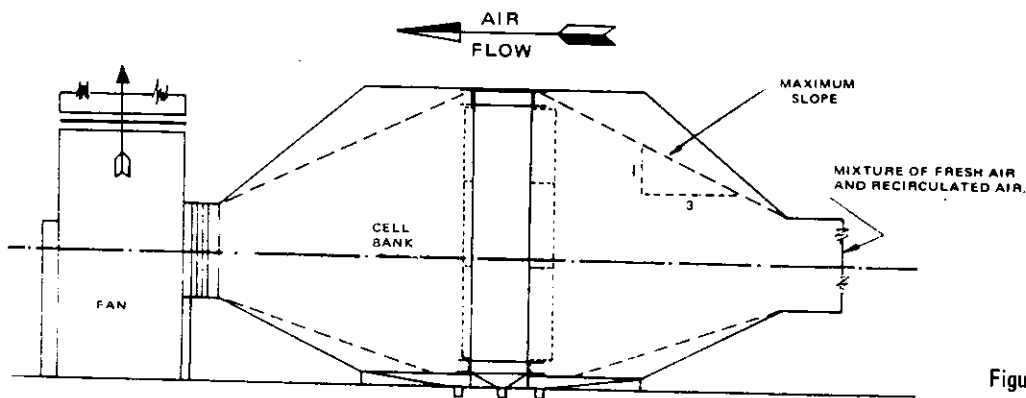
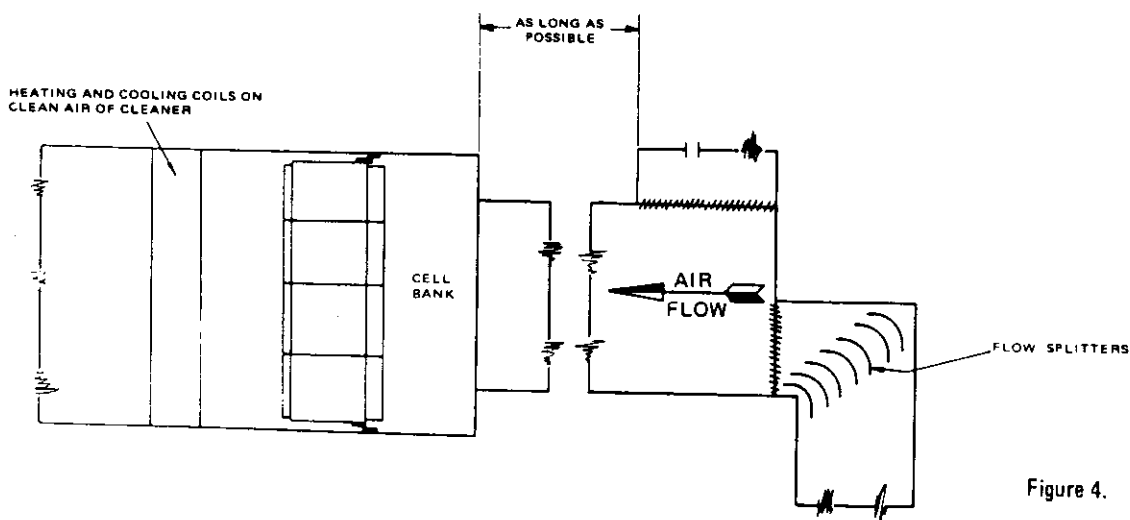

Figure 3.
Figure 4.
2. **Air Handling Requirements** — An electronic air filter is sized to clean a specified quantity of air with an effective efficiency of 85%, 90% or 95%. Overall cleaning efficiency depends a great deal on uniform air flow throughout the whole unit and distribution of air over the face of the filter should be as uniform as is possible to obtain. Connections between the cleaner housing and the duct should taper as gradually as space will allow and the effective slope should not be more than 1:3 as shown in Figure 3. The cleaner should be installed as far away from bends in the duct as possible as shown in Figure 4. The section of duct housing the the cleaner should be as square as possible, especially if it is close to a fan. Spray eliminators supplied, help to equalise the air flow. However, they may not be sufficient to overcome stratification, eddying, turbulence or other deficiencies in the duct system. If these conditions exist when the fan is operating, it may be necessary to install baffles or turning vanes ahead or behind the unit as a corrective measure. Total air quantity through the unit should not exceed the rated air capacity. Air velocity through any part of the frame bank should not exceed the rated velocity by more than ten percent.
3. **Heating & Cooling Coils** — Heating and cooling coils should be placed on the clean air side of the cleaner so that dirt build-up on these items will be virtually prevented and heat transfer efficiency maintained. See Figure 4. If the coils are of restricting dimensions they should not be placed so close to the unit as to restrict the air flow through any part of it.